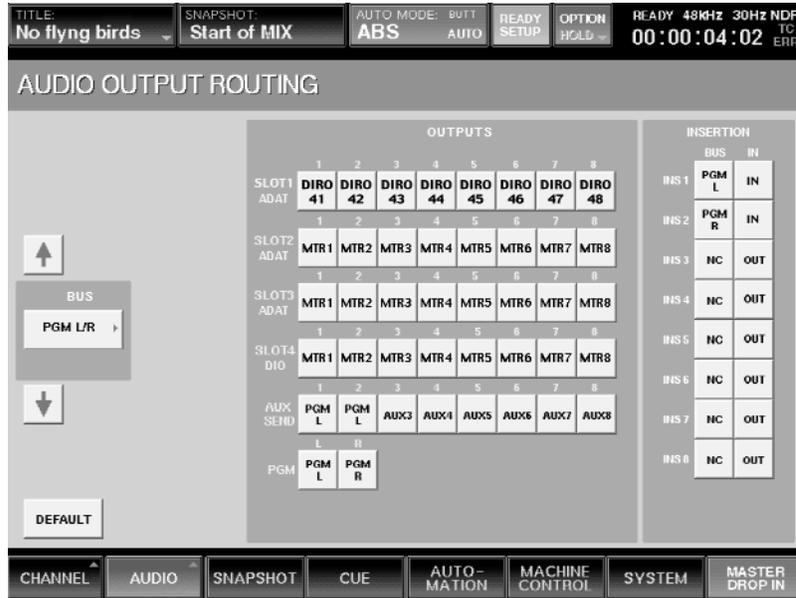

Figure 26
- Now press R in the Bus drop-down menu, and press INS 2 in the Insertion section. PGM R will be selected for Insert 2, which will be set IN. (See Figure 26)